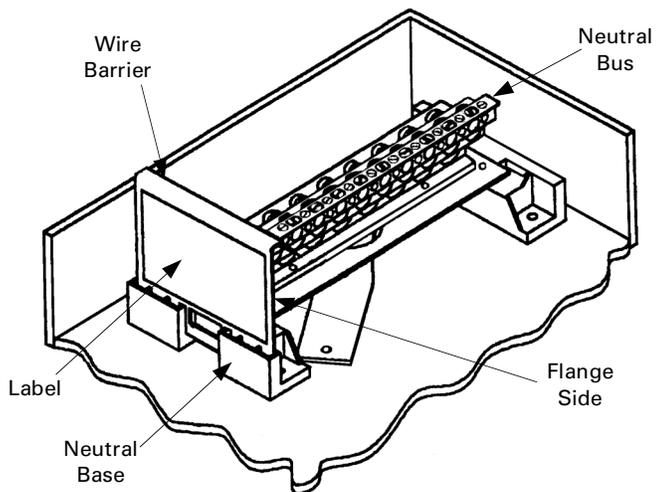

Figure 3. Wire barrier installed in the neutral base.
3. Fasten the opposite end of the neutral to the enclosure with the two #10-32 $\times \frac{11}{16}$ " thread-forming screws provided. Tighten to 27–32 in.-lbs. Figure 3 shows the neutral mounted to the back wall of the enclosure.
5. Install the wire barrier into the neutral base, with the flange side facing the neutral bus, as shown in Figure 3. The Spectra Series™ label is located on the side of the wire barrier opposite the flange.